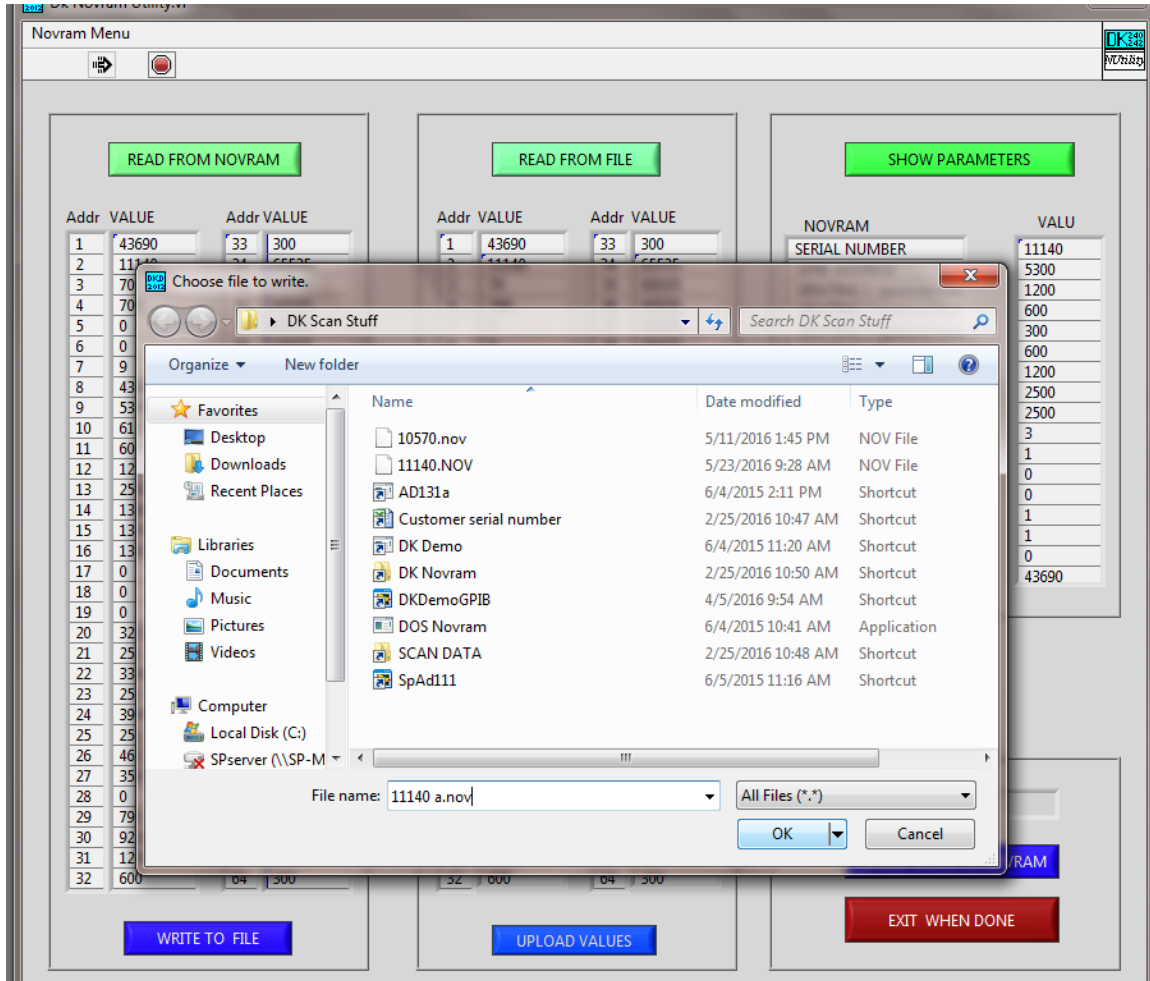

Figure 24. Write to file
9.4.3 Write to File – Pressing the Write to File button will open a sub vi that allows the user to save the current Novram values to a computer drive (Fig 24). It is a good practice to save Novram files, especially if any changes are made to the file. If any problems arise with your DK, we will typically ask for the latest Novram values to begin troubleshooting.